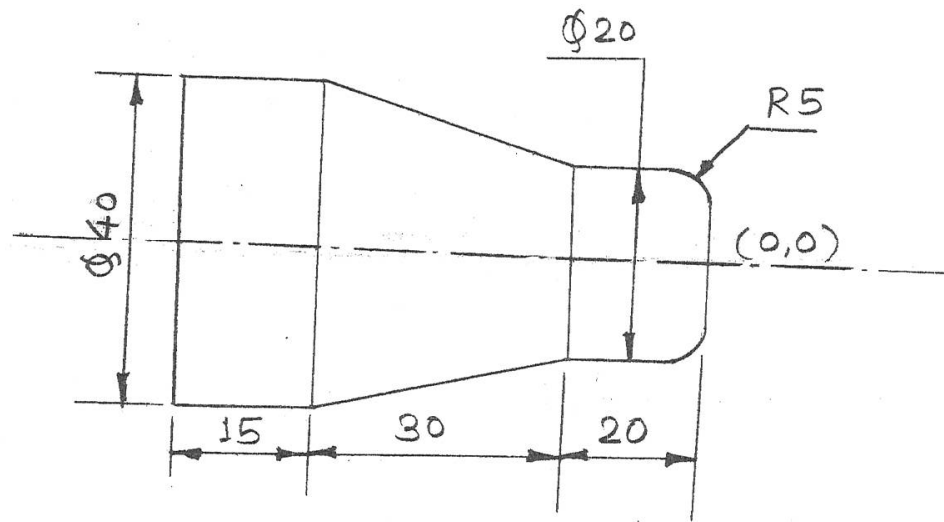

fig. 1
- a) Write a part programme for a job as shown in Fig. 1 Take only finish cut. Spindle Speed= 1200rpm, feed rate = 150mm/min. Assume suitable machining data if required.